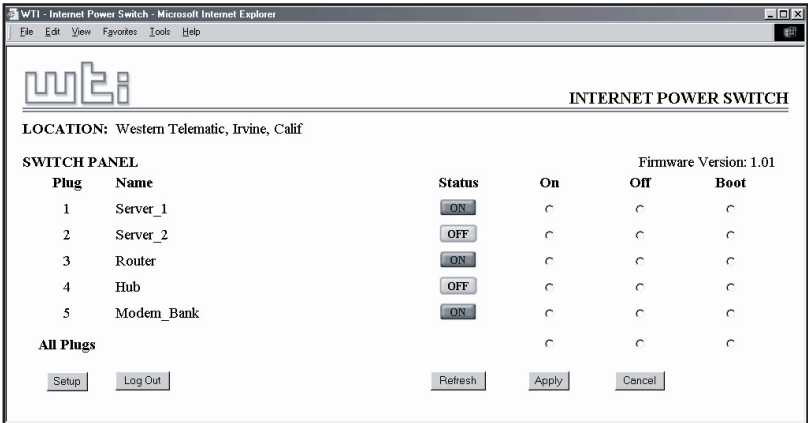

Figure 3.2: The IPS Plug Status Screen, Web Interface
2. **Password Prompt:** When the IPS-15 is accessed via the Web Browser Interface, the Password Prompt will always be displayed. If the User Name and/or System Password have not yet been defined, click "OK" without keying in a user name or password. If the User Name and/or System Password have already been defined, key in the user name and system password and then click "OK". The IPS Plug Status Screen should be displayed as shown in Figure 3.2.